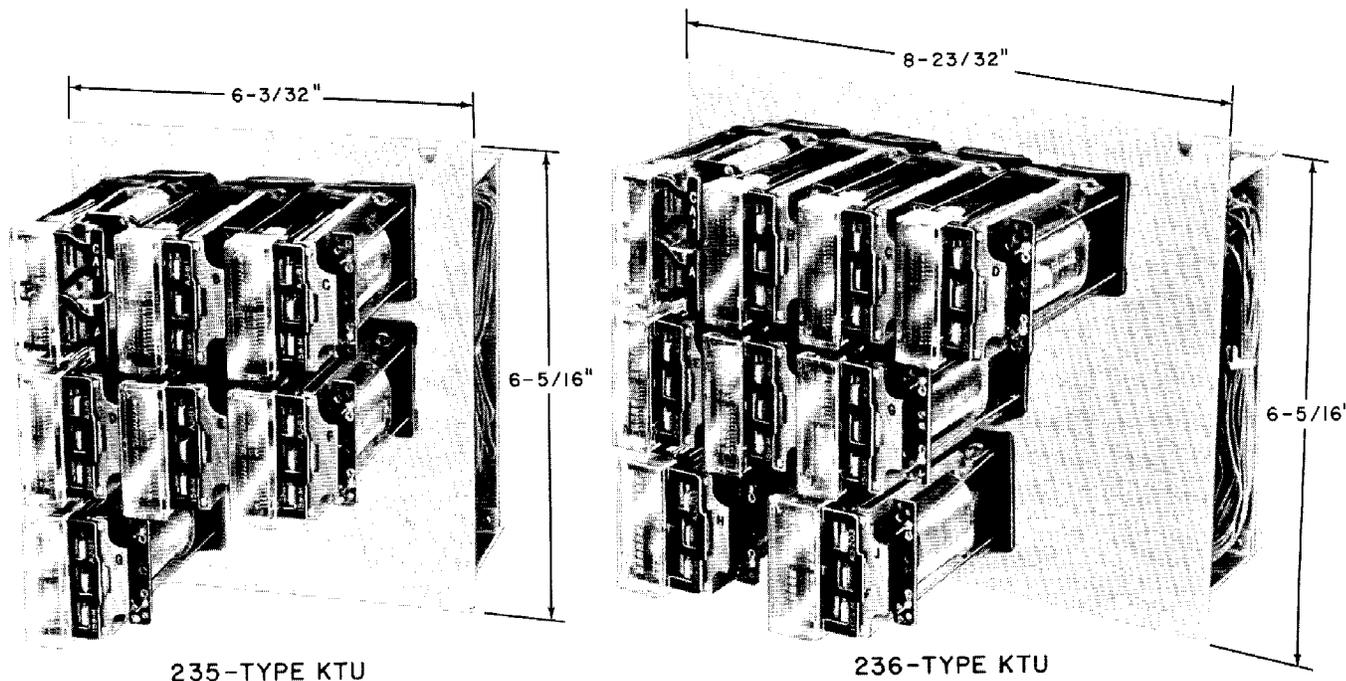

Fig. 1 — Station Line Concentrator KTUs, Front View
- The 235- and 236-type key telephone units (Fig. 1 and 2) are used to reduce the number of conductors required to connect key system line circuit units and CALL DIRECTOR® concentrator telephone sets or large capacity 400-type key mountings.